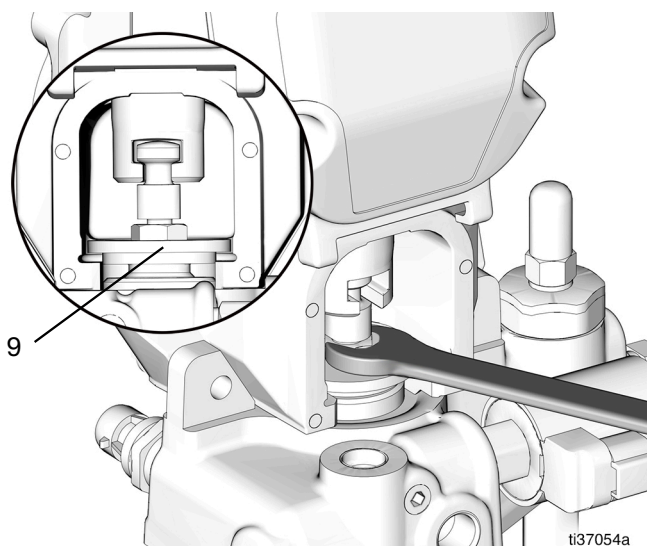

FIG. 69
29. Tighten the retaining nut (9) with a wrench (torque 30 ft-lb/40.1 N•m) to secure (FIG. 69).